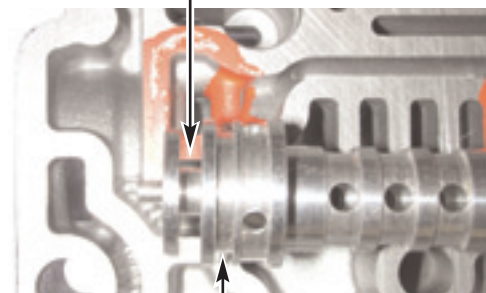

Figure 5
- Retain the sleeve with either the L pin or the long spring pin provided (see Figure 4). Retain the new end plug with either the OEM L pin or the short pin provided (see Figure 5). Both a spring pin and an L pin are supplied due to different tolerances in valve body castings. Use either retainer at the nub on the TCC sleeve, whichever holds or positions the sleeve accurately and securely. The end plug can be held with the original L pin or the short pin provided.